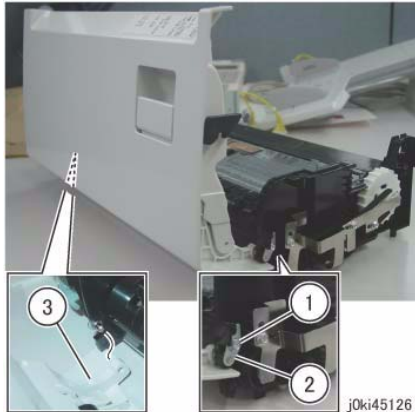

Figure 1 Remove the Top Cover
10. Remove the Top Cover. (Figure 1)